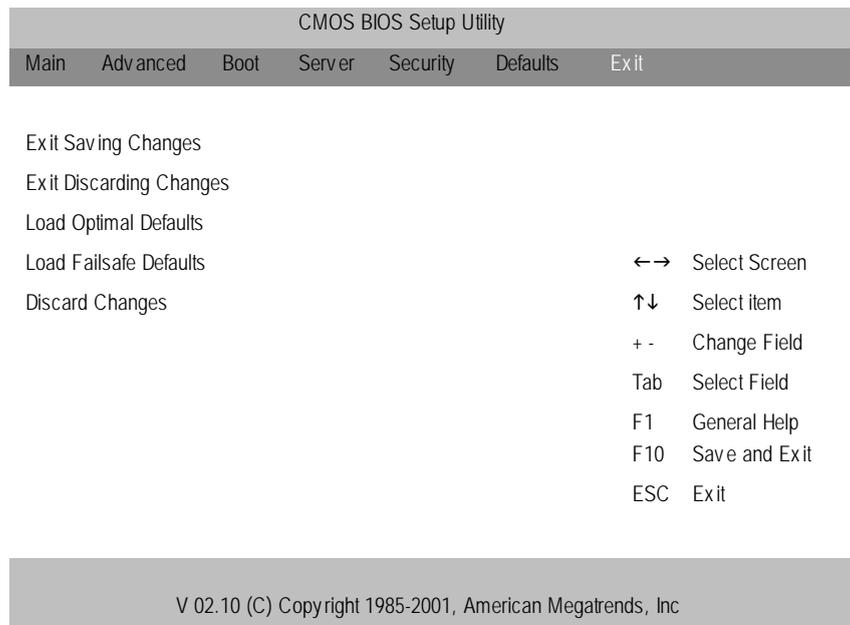

Figure 8: Exit
- Figure 8 indicates the installation result, click "OK".